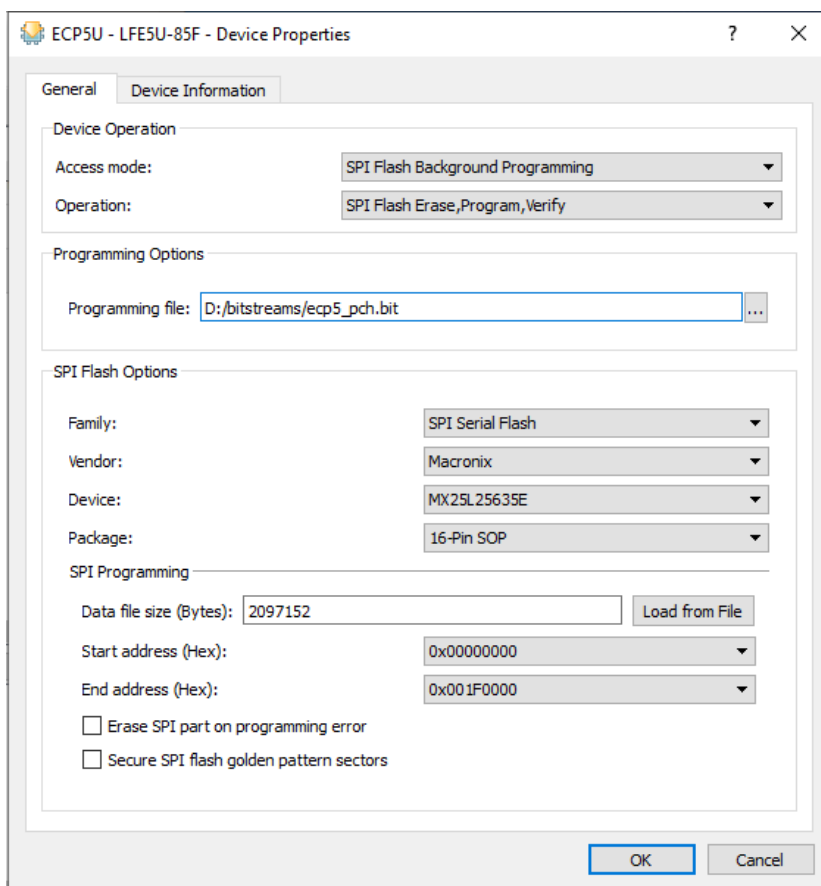

Figure 4.4. Device Operation
2. Configure the operation for Device 2 as shown in Figure 4.4.